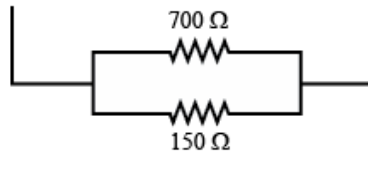

Figure 9
- 1 Disconnect the power supply from the resistance circuit. Hook up the two resistors (using the banana-banana leads) as in the schematic of Figure 9. The resistors are said to be in parallel